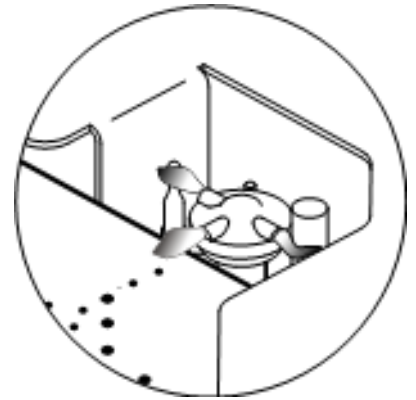
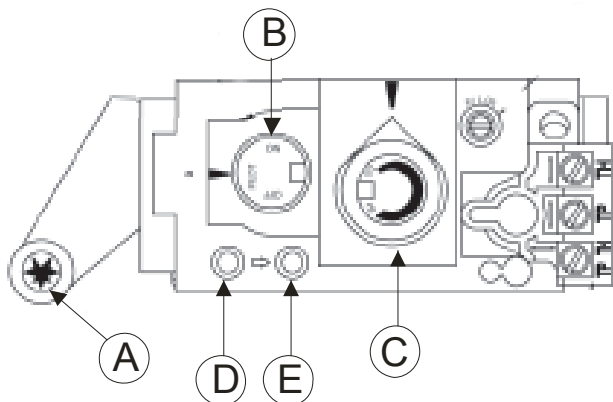
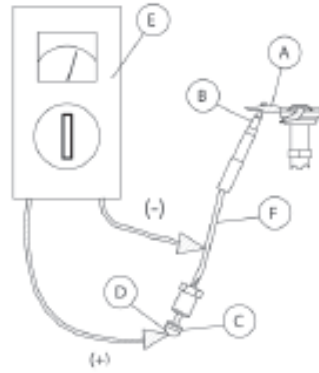
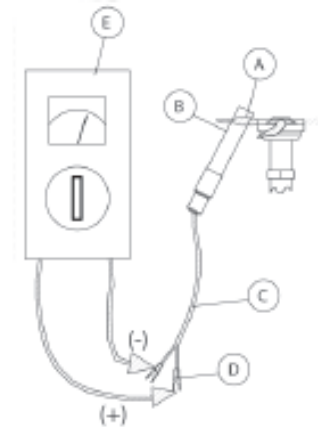

Figure 17.
Figure 20. Valve Controls.
Figure 23.
Figure 24.
The pilot flame should have three flames as shown in fig. 16. The two thermo-element sticks should be surrounded by two of the flames as shown in fig. 17. The flames should be stable and the colour mainly blue. If you detect a deviation from this, turn off the pilot flame and call for service.
The valve control knobs are located on the front of the appliance behind the control cover plate. See fig. 20.
2. Push in the gas control knob on the front of the valve ("B", fig. 20) a little, and turn clockwise to "OFF". Note: It is impossible to turn the gas control knob unless it is pushed in a little. Do not use force.
3. Push in the gas control knob (B) a little and turn counter-clockwise to "PILOT".
Heat and flame size can be adjusted by turning the regulator knob (C) marked "HI, LOW", which is located next to the gas control knob (see fig. 20). Maximum flame size provides maximum heat. Make sure the appliance has been operating for at least 30 minutes before adjusting the flame.
Push the ON/OFF switch at the rear of the appliance to "OFF". The pilot flame will continue to burn. In order to fully extinguish the appliance, push in the gas control knob (C) (fig. 20) a little and turn clockwise to "OFF". Do not use force.
If the pilot does not light after attempts to clear the tube system of air, it indicates a problem with the gas tank/cylinder or a leak in the gas tube. Check the gas pressure as instructed in the section Gas Installation on page 10 and determine if the fault/leak is before or after the valve on the appliance. If the gas pressure at outlet D (fig. 20) is too low or there is no gas pressure at all, the fault or leak must be located before the valve on the appliance. If the gas pressure is OK at outlet (D), but too low at outlet (E), then the fault or leak must be located after the valve.
This is the trouble-shooting procedure for the gas supply: Remember to push in the gas control knob for at least 30 seconds. Make sure the flame is centred at the thermocouple. Make sure the thermocouple is enveloped by the flame up to at least 3 mm (1/8") from the tip (fig. 17).
If the flame is abnormally large or small, check the gas pressure first. See section about gas pressure, page 10. Then check for errors, dirt or corrosion on the pilot burner (fig.17), the pilot orifice and the gas supply to the pilot burner.
Thermocouple (Fig.23) and Thermopile (Fig. 24)
This is the trouble-shooting procedure for the thermocouple, fig. 23,B: Check the copper wire (F) of the thermocouple for cracks or damage.
Make sure the flame is centred at the thermocouple. Make sure the thermocouple is enveloped by the flame up to at least 3 mm from the tip (see fig.17). Check the voltage generated by the thermocouple. Connect the multimeter (fig.23-E) with plus to the ball point (D) at the end of the copper wire. Connect minus to the copper wire. Light the pilot (A) and hold in the control knob to prevent the flame on the pilot burner from going out. At this point the multimeter should show 14-28 mV. the thermocouple. Note that there are 2 threaded holes that can be used when installing a new thermocouple. Make sure the blue wire (A) is fastened at the same threaded hole. The nut on the thermocouple must not be tightened too much, just a 1/2 turn. If the gas pressure is correct and the possible faults above have been checked, the pilot flame can be adjusted with the adjusting screw. The gas volume is increased when the screw is turned anti-clockwise.
This is the trouble-shooting procedure for the thermopile (fig. 24):
8. Check the voltage generated by the thermopile (see fig 24). Connect the multimeter with plus to one cable clip (D). Connect minus to the other cable clip. Light the pilot and make sure the control knob remains on "PILOT" (fig. 20-B). At this point the multimeter should show 500-700 mV.